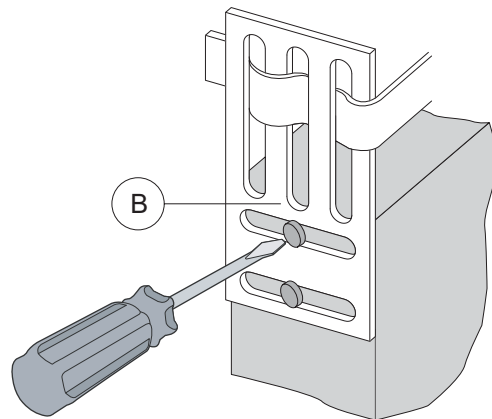

Fig. 4
- Fasten the belt connection bracket [B] to the door wing (fig. 4).